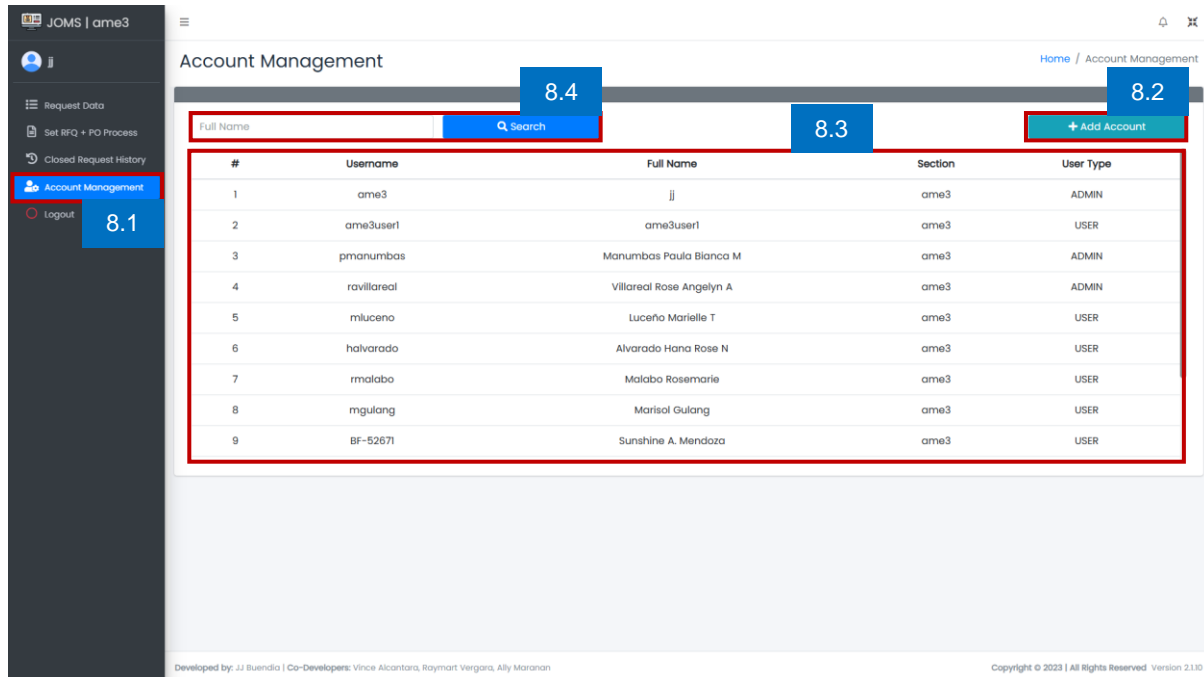

Figure 21. AME3 Account Management Page
8.1 Click the Account Management. (See Figure 21)
8.2 Click Add Account to create an account. (See Figure 21)
8.3 View table of accounts. To update, click row of data to be updated and same goes when deleting an account. (See Figure 21)
8.4 Search account by full name. (See Figure 21)